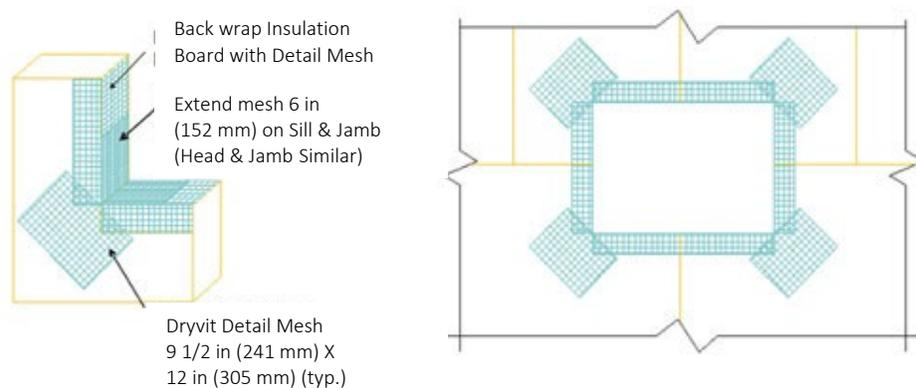

Fig. 30
- a. At penetrations, align the Closure Blocks so that the edges (vertical and horizontal joints) do not coincide with the corners of the opening as illustrated in Figure 30.
18. Corners of all openings such as windows, doors, mechanical equipment and all penetrations shall be reinforced with Detail Mesh placed diagonally to the opening as illustrated in Figure 30 previously.